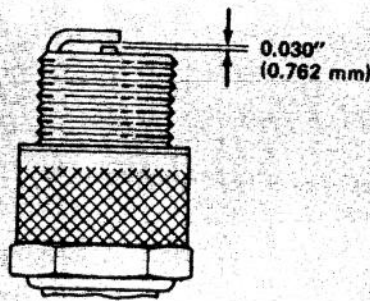

Figure 26
5. Set air gap between center and side electrodes at 0.030 of an inch (0.762 mm) (Fig. 26). Install correctly gapped spark plug w/gasket seal, and